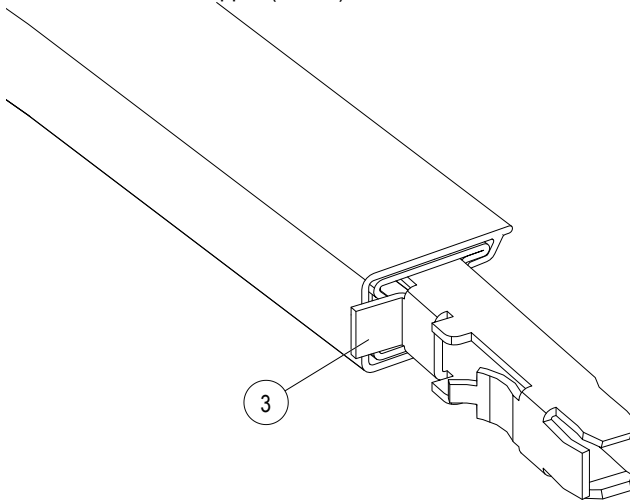

Fig. 60: The connector stopper (Pos. 3) is in contact with the insulating profile
→ The connector stopper (Pos. 3) must be in contact with the insulating profile of the conductor rail (see Fig. 60).
- Before the last conductor rail bend is mounted in the hanger clamp, slide the connector into the end of the last conductor rail bend up to the stopper (see Fig. 60).